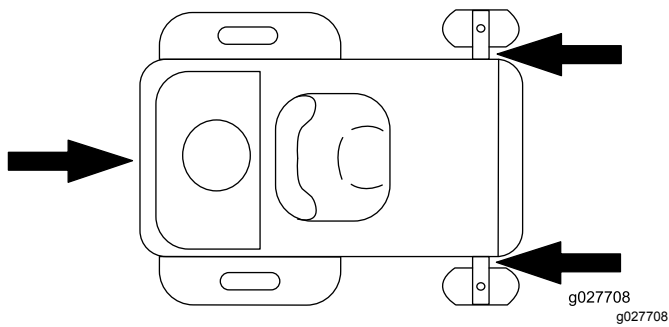

Figure 32
- Securely fasten the machine to the trailer or truck with straps, chains, cable, or ropes. Only use the four designated tie-down locations on the mower—two on the left side and two on the right (Figure 32). Use these locations even when transporting the mower with an attached accessory. Using non-designated locations may cause damage to the mower and/or attachment.